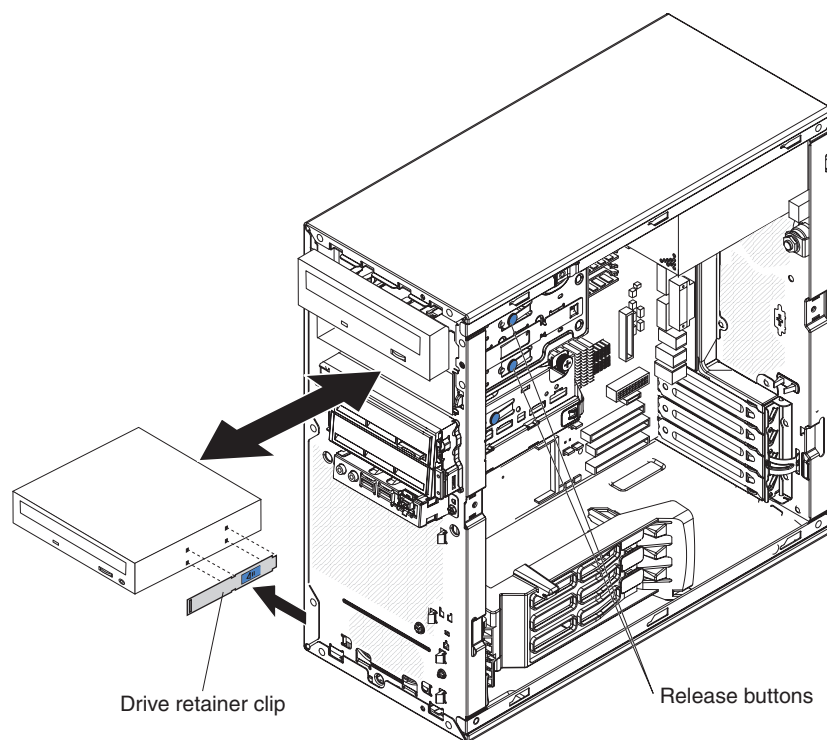

Figure 33. Installing a drive in bay 1 or 2
5. Install the blue drive retainer clip into the screw holes on the side of the drive or conversion kit (with the blue side of the clip facing outward) (see Figure 33 on page 101).